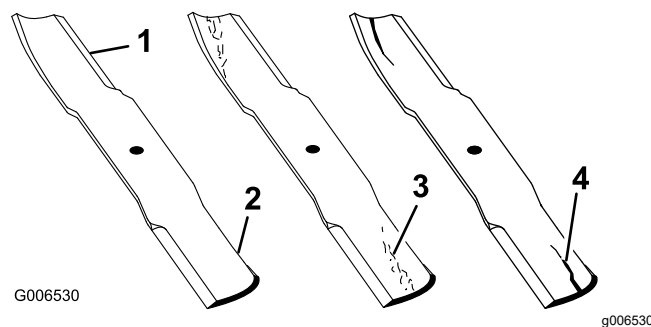

Figure 63
1. Inspect the cutting edges (Figure 63).
4. If you notice any cracks, wear, or a slot forming in this area, immediately install a new blade (Figure 63).